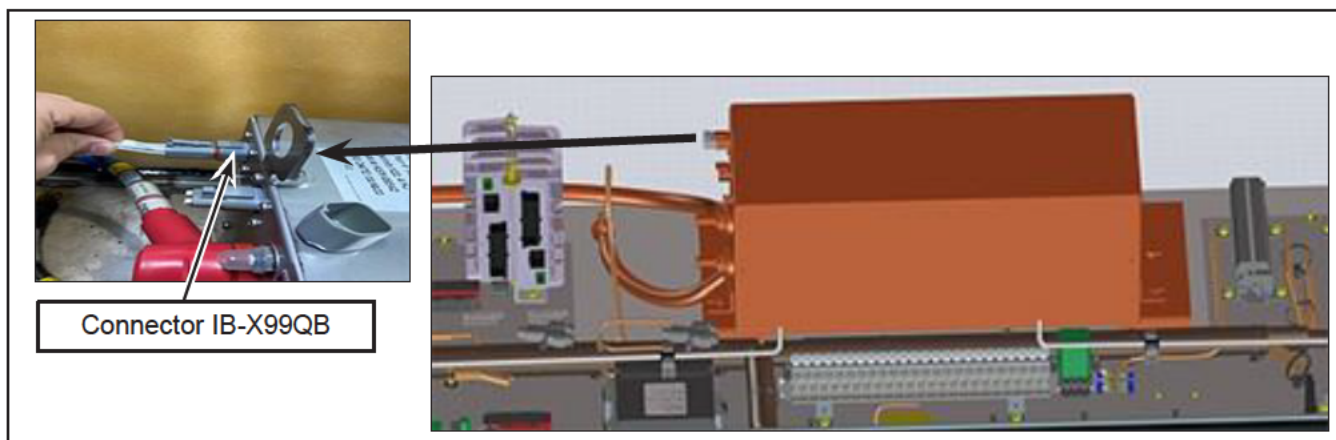

Figure 2 - Super Capacitor Connector IB-X99QB
- 1.10. Disconnect connector IB-X99QB from the Super Capacitor. See Figure 2.